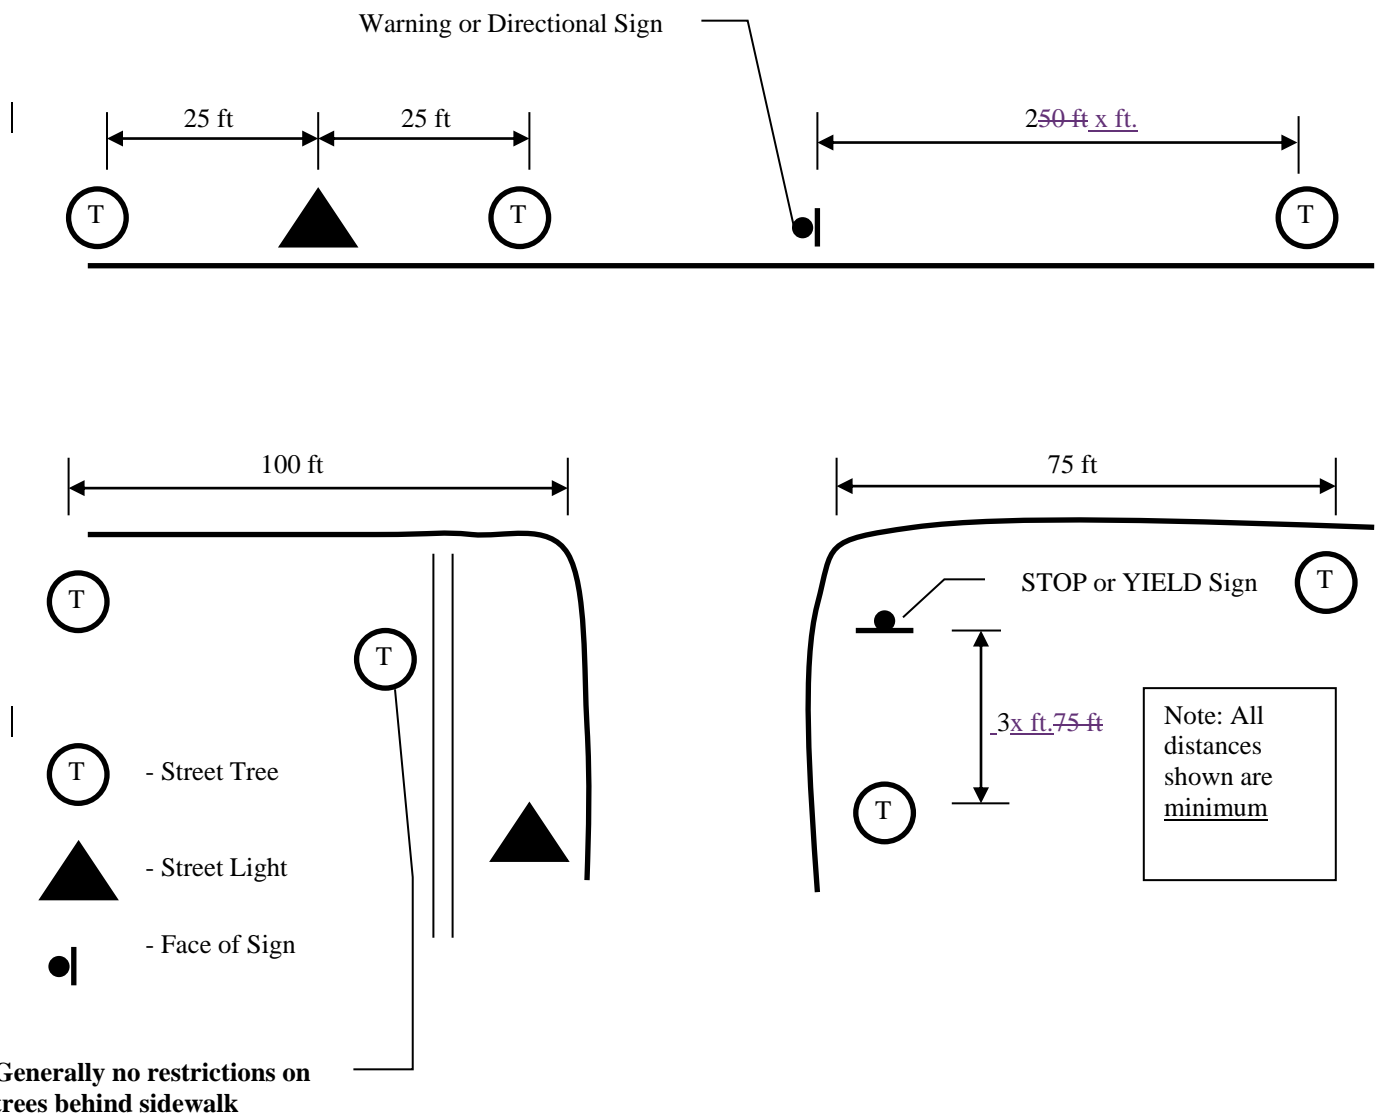

Figure 3 – Signing for County/County Intersections
- a. The standard designation for a STREET NAME sign is SNS. The SNS assembly shall have a sign blade for each intersecting street for both the major street and minor street(s), so that there will be two (2) or more SNS blades for each SNA assembly
- e. Refer to Figure 3 for additional information regarding SNS installations at the intersection of two County roadways.
- b. In general, the minor roadway(s) will be provided with a STOP sign at all County intersections. Refer to Figure 3 for additional information.